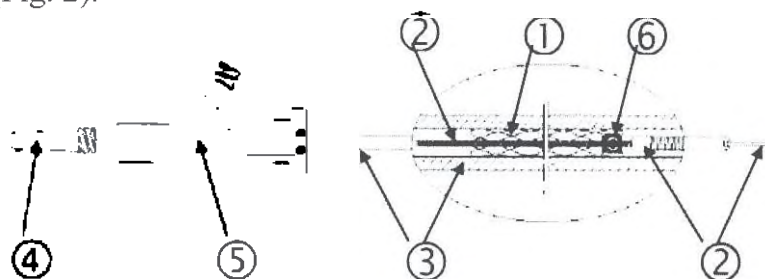

Figure 2 - Stent installation system
Self-expanding nitinol stent (1) and delivery system. The delivery system consists of delivery conductor (2) and introducer (3). The LEO+/LEO+ Baby stent is pre-installed on a guide located inside the introducer (Fig. 2).